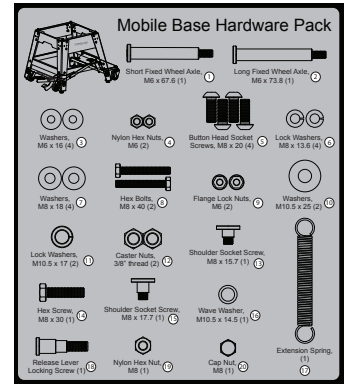

Fig. 1
1. Locate all of the mobile base components shown on page 1. All of the hardware needed to install the mobile base is located on the mobile base hardware pack (see Fig. 1). In order to easily identify the hardware used in each of the following steps, the different pieces of hardware are numbered on the hardware pack and in the figures. If you are missing the hardware pack or any of the other mobile base components, call the SawStop Service Department at 503-682-6222 for replacements.